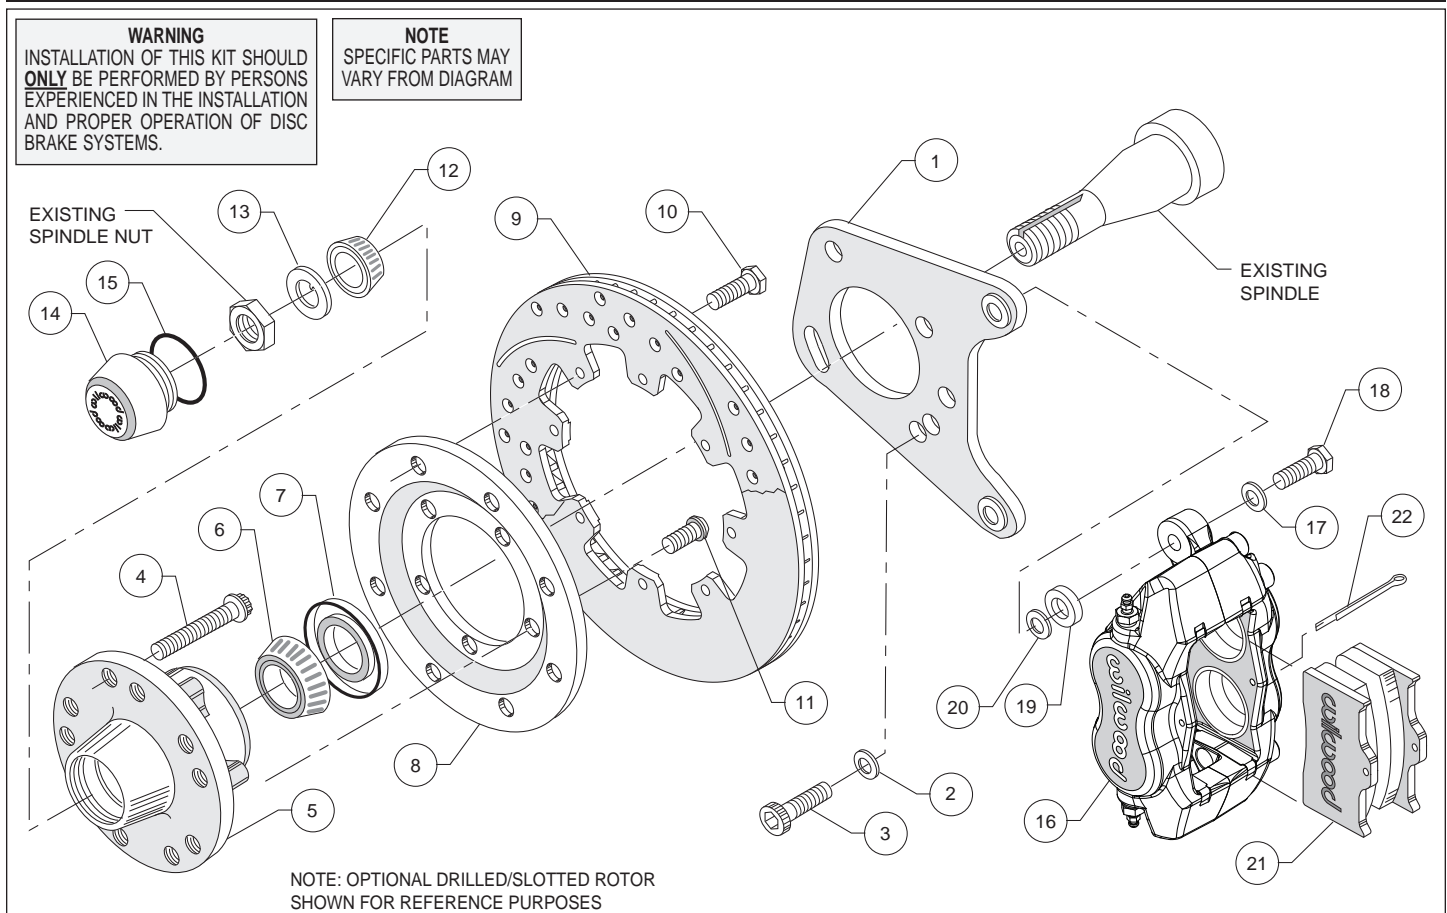
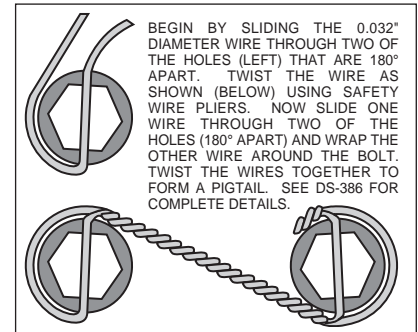
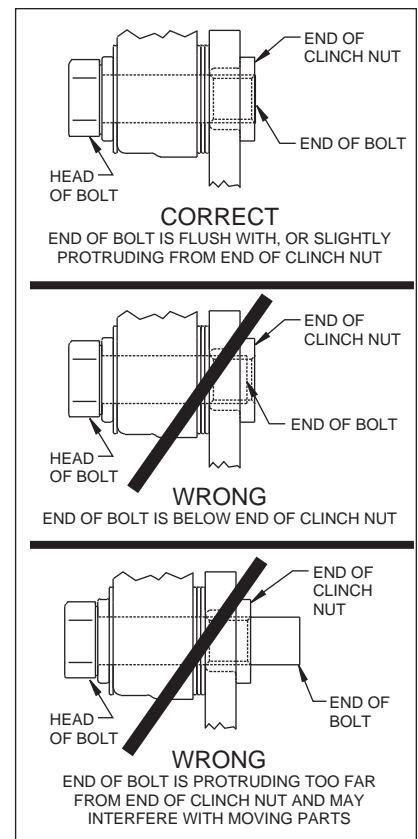

Figure 1. Typical Installation Configuration
Figure 3. Safety Wire Diagram
Figure 4.
- Position the caliper mounting bracket (1) on the spindle. **NOTE:** Be sure the heads of the caliper bracket (1) insert nuts are facing outward toward the wheel. Place one washer (2) on each of the three caliper bracket bolts (3). Mount bracket to the dust plate face of the spindle and align the three 3/8-16 holes in the spindle with the corresponding holes in the bracket (1). Apply red *Loctite*® 271 to all three bolt threads (3) and install. Torque bolts (3) to 22 ft-lb.
- Install wheel studs (4) into the hub (5). Torque to 77 ft-lb. **NOTE:** There are two lug patterns of five holes each in the hub (5 x 4.50 and 5 x 4.75). Make sure of the correct hole pattern for the wheel application before installing the studs into the hub.
- Attach rotor adapter plate (8) to rotor (9) using bolts (10). **NOTE:** Dished side of adapter plate (8) should face hub (5). The mounting tabs on the rotor (9) should face toward the hub as well and line up with the holes on the adapter plate (8), Figure 1. Using an alternating sequence, apply red *Loctite*® 271 to the threads and torque bolts to 25 ft-lb. For an added measure of security, the bolts may be safety wired using standard 0.032 inch diameter stainless steel safety wire as shown in Figure 3. Please refer to Wilwood's data sheet DS-386 (available at www.wilwood.com/Pdf/DataSheets/ds386.pdf) for complete safety wire installation instructions.
- Mount the adapter/rotor assembly (8/9) to the hub (5) using bolts (11), as shown in Figure 1. Using an alternating sequence, apply red *Loctite*® 271 to the threads, and torque to 45 ft-lb.
- Pack the large inner bearing cone (6) with high temperature disc brake bearing grease (available from your local auto parts store) and install into the backside of the hub (5).
- Install the grease seal (7) by pressing into the backside of the hub (5).
- Pack the small outer bearing cone (12) with high temperature disc brake bearing grease and install into front of hub (5). Slide the hub assembly (5, 6, 7 and 9) with outer bearing cone (12) onto the spindle. Secure using spindle washer (13), stock adjusting nut and nut locking device. Adjust bearings per Original Equipment Manufacturer (OEM) specifications.
- Install the o-ring (15) and the dust cap (14) onto the hub (5). Friction created by the o-ring (15) on the dust cap (14) keeps it from unscrewing on its own.
- NOTE:** Please reference the caution statement at the beginning of the assembly instructions. Mount the caliper (16) onto the caliper bracket (1) using washers (17), bolts (18) and caliper spacer (19). Finger tighten. View the rotor (9) through the top opening of the caliper (16). The rotor (9) should be aligned in the center of the caliper (16). If not, adjust the caliper (16) by using 0.032 inch thick shims (20) placed between the caliper mounting bracket (1) and the caliper spacer (19). Finger tighten and recheck alignment. Add as many shim washers (20) as necessary to achieve the correct alignment. **NOTE:** The end of the bolt must be flush with or slightly protruding from the head of the clinch nut. See Figure 4. Place spare shims (20) between washer and caliper mounting ear to achieve the proper mounting fastener configuration. Always use the same amount of shims on both the top and bottom caliper mounting bolts (18). Apply red *Loctite*® 271 to bolt threads (18) and torque to 40 ft-lb. Caliper mount bolts may be safety wired for additional security.
- Install the disc brake pads (21) and secure using cotter pin (22).